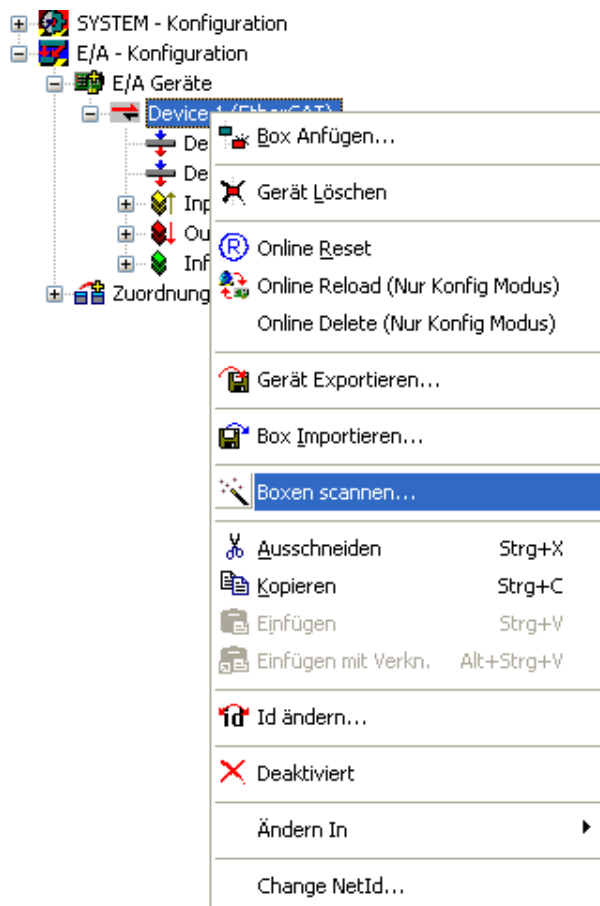

Fig. 6-3: Scan boxes
- Scan the transducer as a box, see Fig. 6-3.